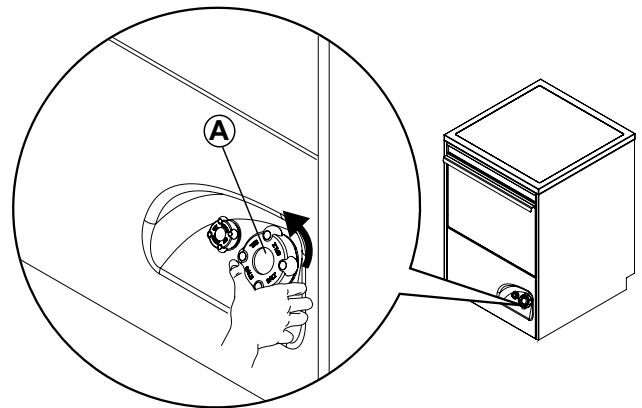

Figure 21
- Unscrew cap "A" (Figure 21) of the salt container, turning it anticlockwise.